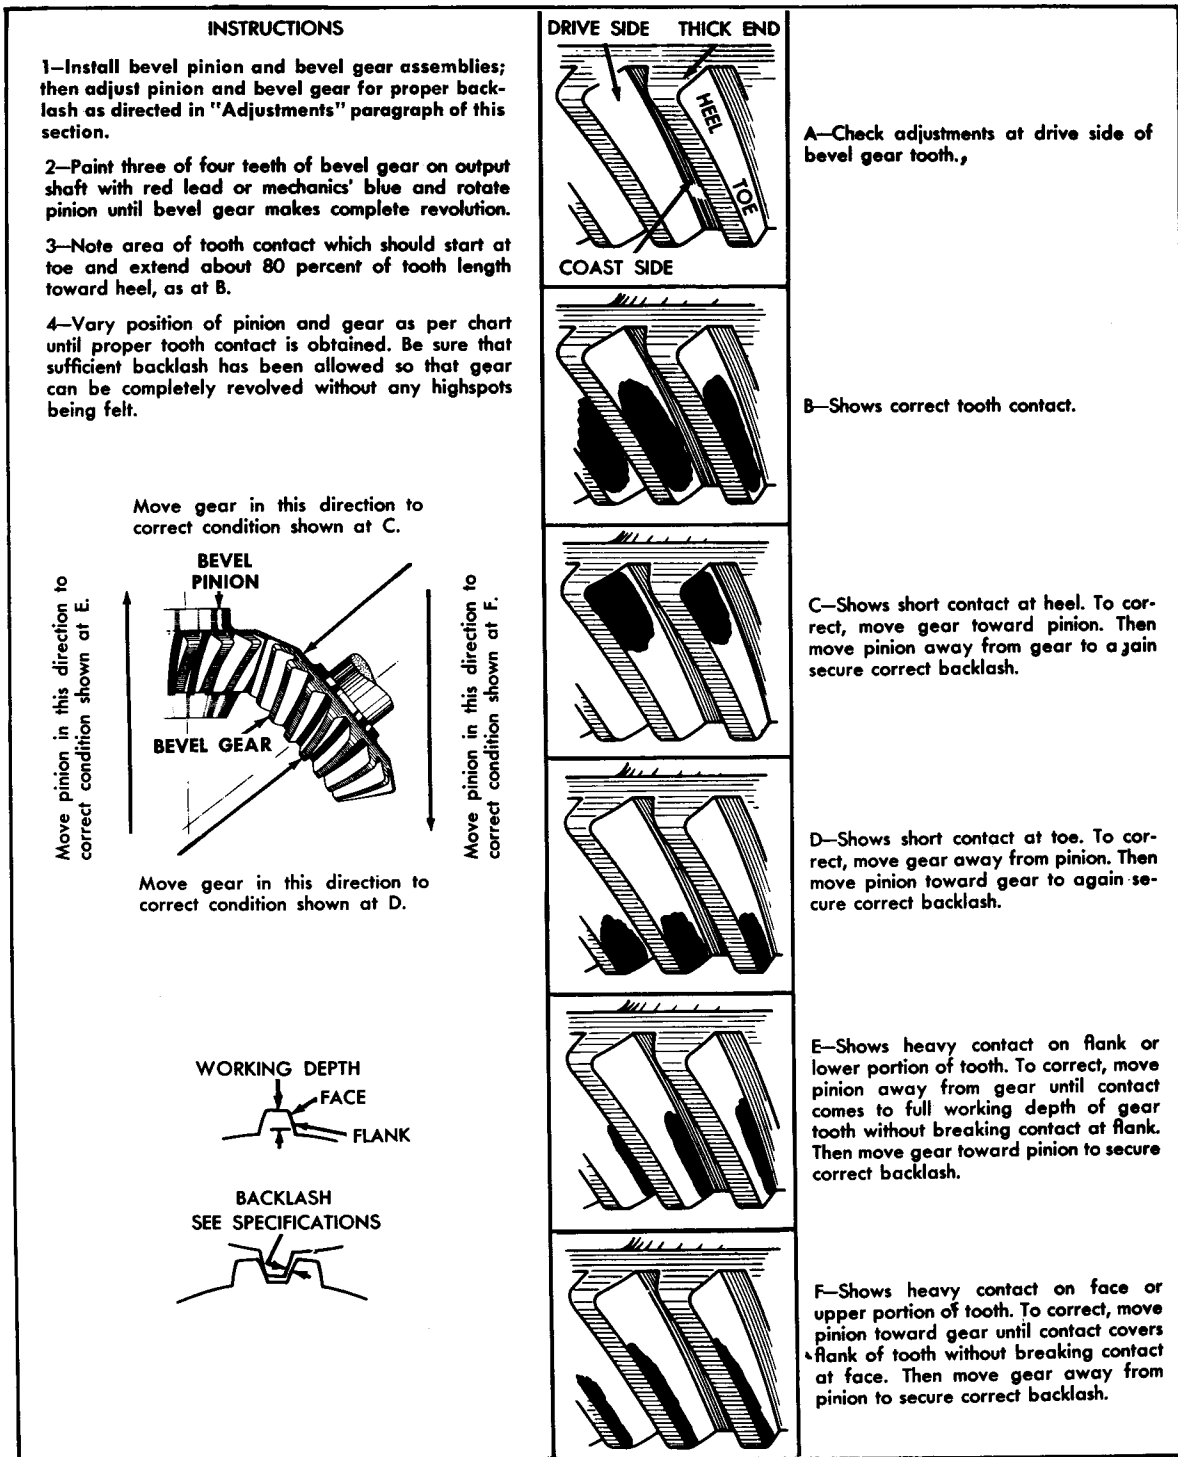

Fig. 7-5. Bevel gear tooth contact chart
(4) Turn the gears and observe tooth contact impression on the drive side of the gear teeth (fig. 7-5, view A). Contact should start at the toe of the tooth (fig. 7-5, view B) and extend about 80 percent of tooth length toward the heel. Contact should be distributed evenly over the flank and face of the tooth, indicating the center of contact on pitch line (fig. 7-5, views A and B).
(5) If tooth contact is too far toward the heel (fig. 7-5, view C), increase the thickness of shim pack 2 (A, foldout 10) or 3 (B, foldout 9) between the bevel gear bearing retainer and main housing, moving the bevel gear toward the pinion. Restore proper backlash by increasing the shims between the bevel (pinion) gear bearing retainer and main housing 1 (B, foldout 9) or (A, foldout 10).
(6) If tooth contact is too far toward the toe (fig. 7-5, view D), move the bevel gear away from the pinion by reducing shims 2 (A, foldout 10) or 3 (B, foldout 9) between the bevel gear bearing retainer and main housing. Restore proper backlash by reducing the shims between the bevel (pinion) gear bearing retainer and main housing 1 (B, foldout 9) or (A, foldout 10).
(7) If the tooth contact is low on the flank of the tooth (fig. 7-5, view E), move the pinion away from the bevel gear by adding shims between the bevel (pinion) gear bearing retainer and main housing. Restore proper backlash by adding shims 2 (A, foldout 10) or 3 (B, foldout 9) between the bevel gear bearing retainer and main housing.
(8) If contact is high on the face of the tooth (fig. 7-5, view F), move the pinion toward the bevel gear by removing shims between the bevel (pinion) gear bearing retainer and main housing. Restore proper backlash by removing shims between the bevel gear bearing retainer and main housing.
(9) When pinion and bevel gear adjustments have been completed, make certain that all retaining nuts or bolts are properly